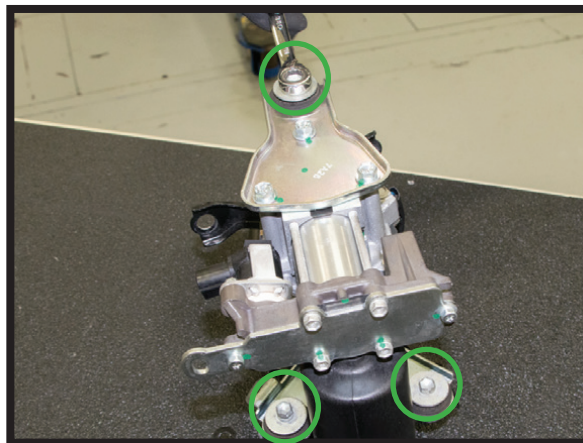

FIGURE 20
5. REINSTALL THE THREE BRACKET BOLTS AND TIGHTEN TO MANUFACTURER'S SPECIFICATIONS. (FIGURE 20)